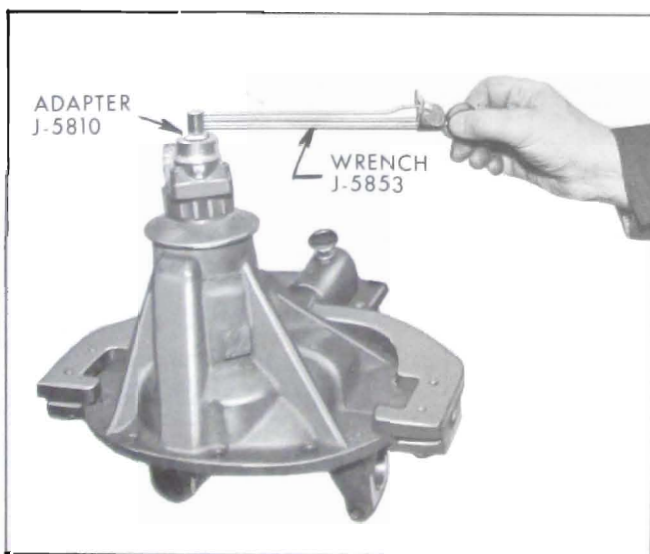

Figure 6-22—Checking Pinion Bearing Pre-Load
7. Rotate pinion three or four times to seat bearings. Turn pinion slowly with an inch pound torque wrench; bearing pre-load including drag of new seal should be 15 to 35 inch pounds. See Figure 6-22.